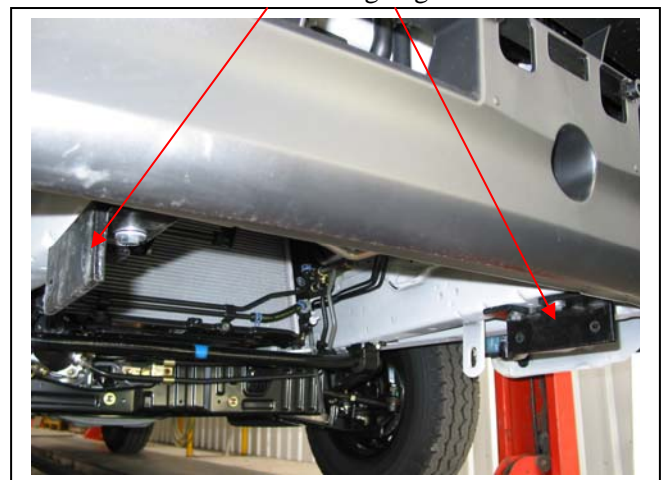

Figure 4
6. Check steel mounting angles are aligned, square and centred on vehicle. Check distance apart is sufficient for protection bar to mount on outside of steel mounting angles. **TIGHTEN ALL BOLTS AND NUTS. See figures 4 and 5.**